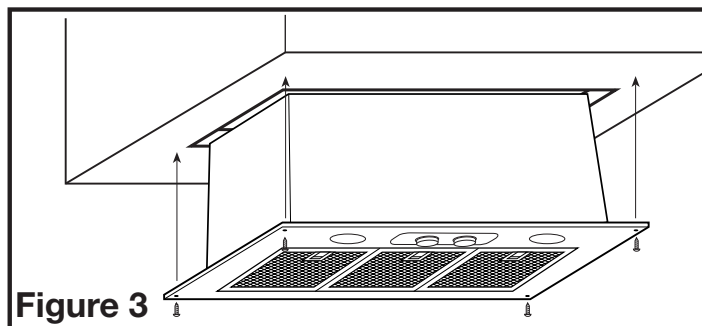

Figure 3
2. Insert the power unit into the hole and secure to liner using the screws provided with the Liner (**Figure 3**).